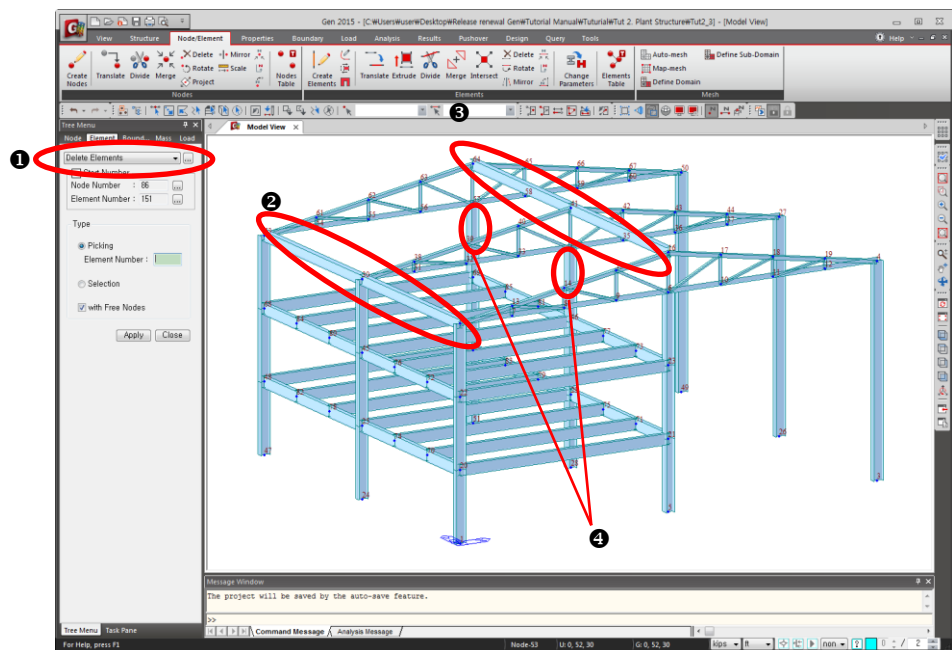

Figure 2.11 Generation of Roof Girders and Removal of Columns
3. Assign nodes **2 (0, 0, 30)** to **53 (0, 52, 30)** to generate the roof-level girders (Fig.2.11–).
4. Assign nodes **16 (32, 0, 36)** to **64 (32, 52, 36)** to generate the roof-level girders (Fig.2.11–).
9. Remove the column elements in Fig.2.11– by assigning with the mouse.